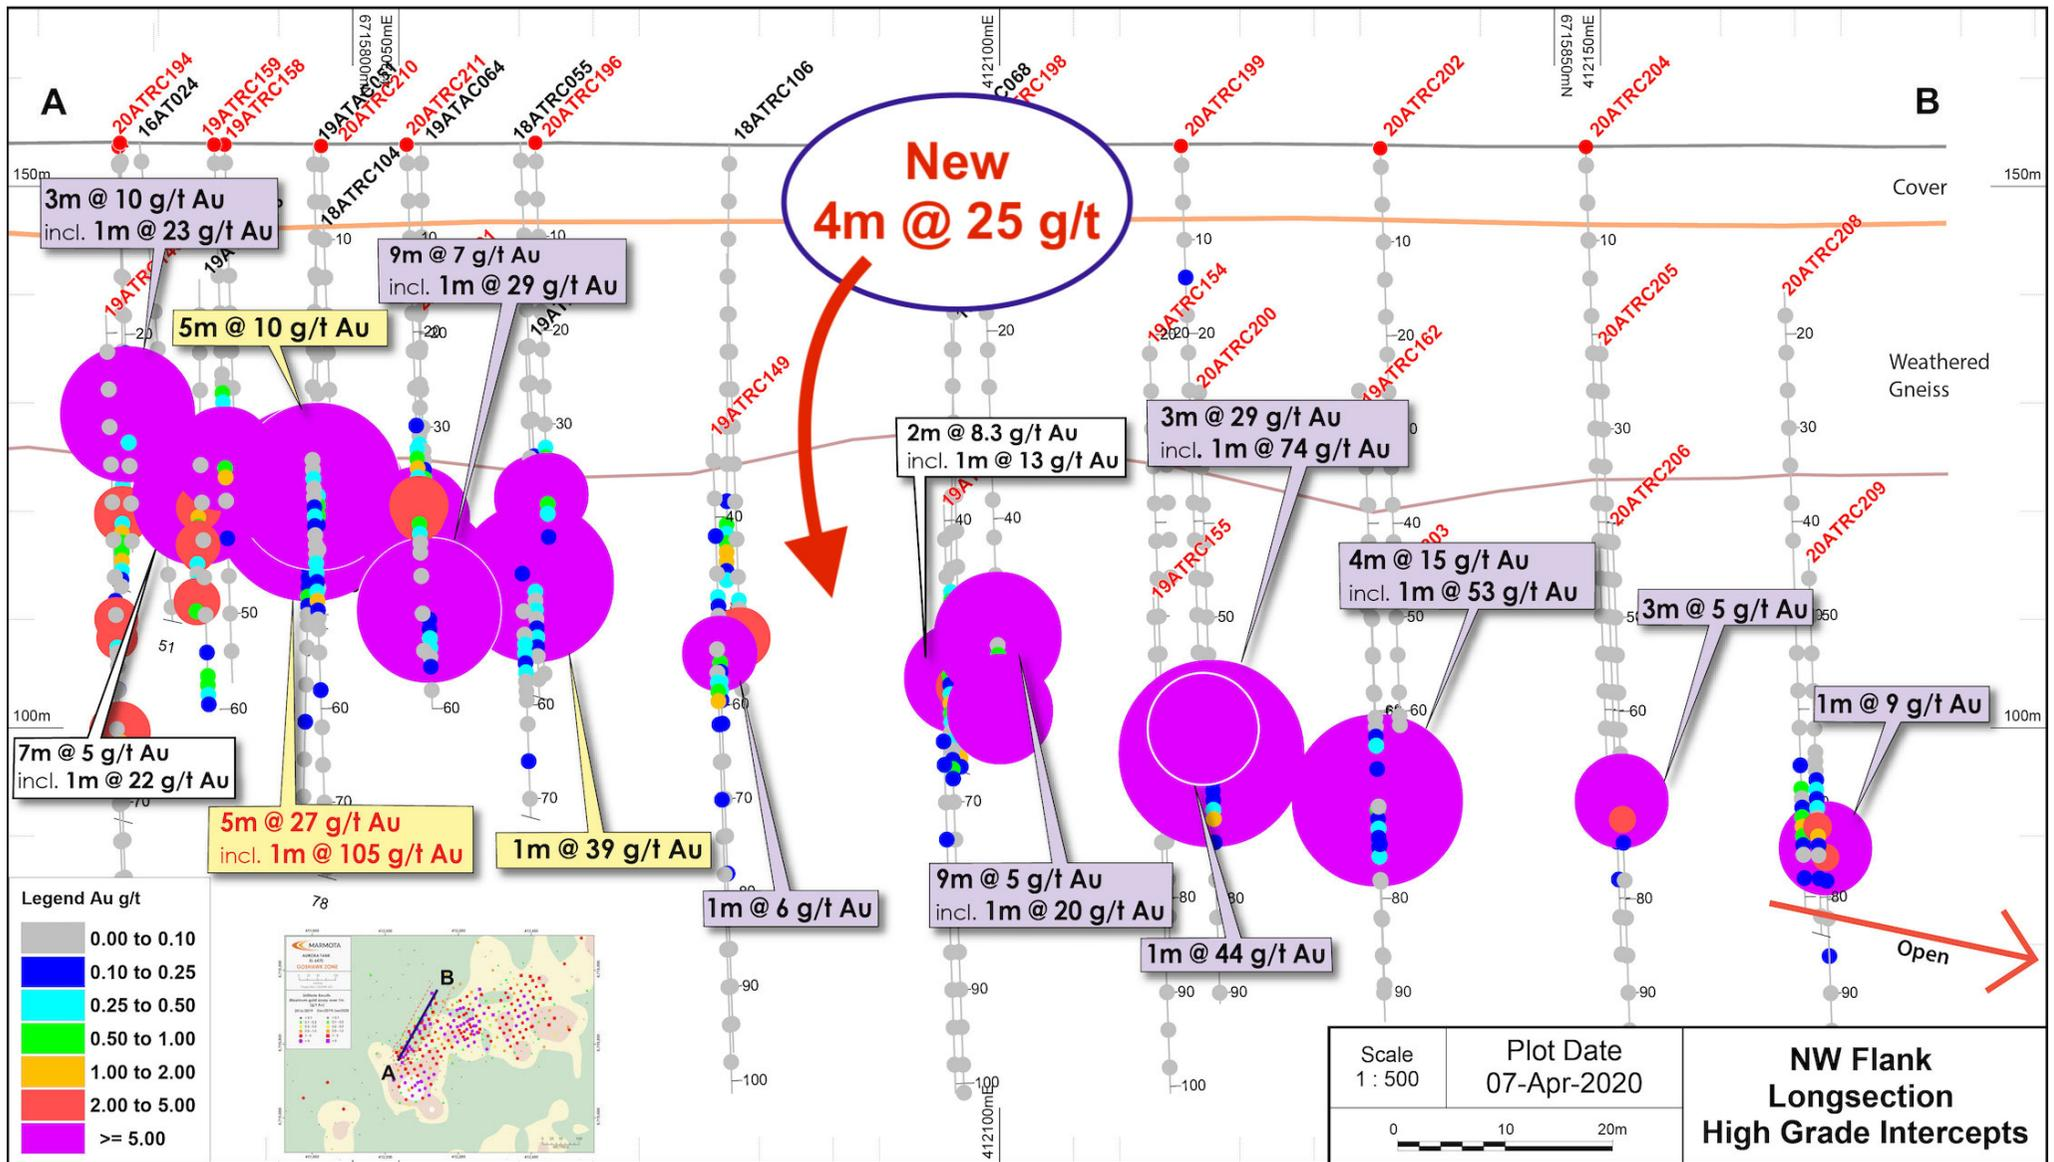

Figure 1: Schematic long-section through NW Flank
1. Location The high-grade intercept is located on the NW flank. This is now the third outstanding intersection that Marmota has obtained along the NW flank see [Fig. 1], with:
See Figure 1: Long section through NW flank